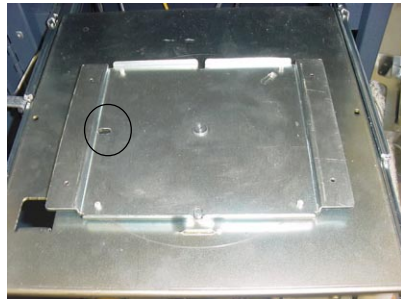
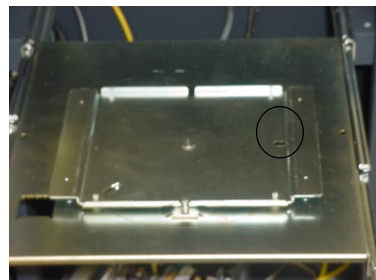

Figure 3. Turntable in cassette service position. Note that plate hole is to the left.
Figure 4. Turntable in operating position. Note that plate hole is to the right.
4. Open the security cabinet and slide the dispenser tray out to its fully extended position. Check the position of the turntable. The turntable must be in the cassette service position to correctly install the dispensing mechanism. The turntable is in the service position when the 90° locking pin hole is to the left as shown in Figure 3. It is in the normal operating position when the hole is to the right as shown in Figure 4.